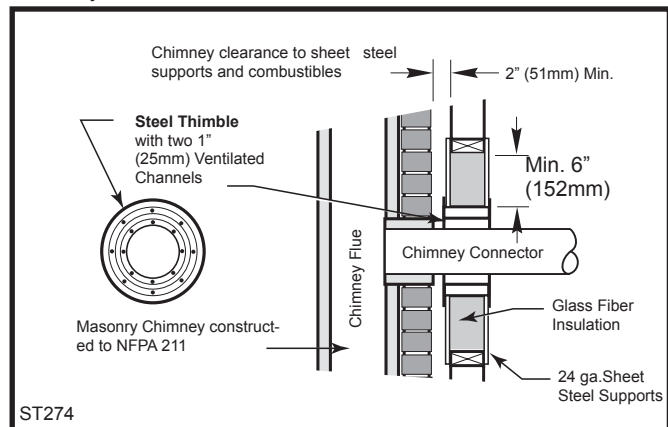

Fig. 11 Wall Pass-through using single wall chimney connector with a ventilated steel thimble.
- Placing a chimney connector pipe inside a steel double-wall ventilated thimble, which is then separated from combustibles by 6" (152 mm) of fiberglass insulating material. (Fig. 11)